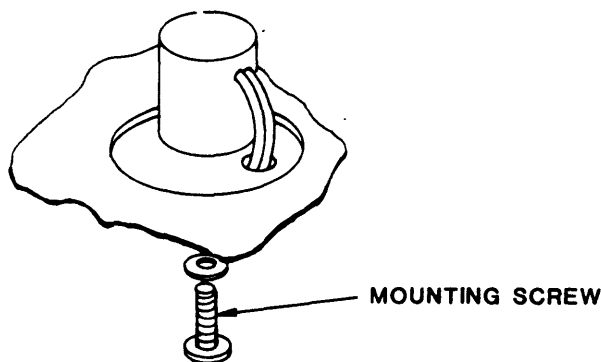

Figure 4-23 Tape-In-Channel Emitter Assembly and Tape-In-Channel Sensor Assembly
4.3.26 TAPE-IN-CHANNEL EMITTER ASSEMBLY (Figure 4-23)
4.3.27 TAPE-IN-CHANNEL SENSOR ASSEMBLY (Figure 4-23)